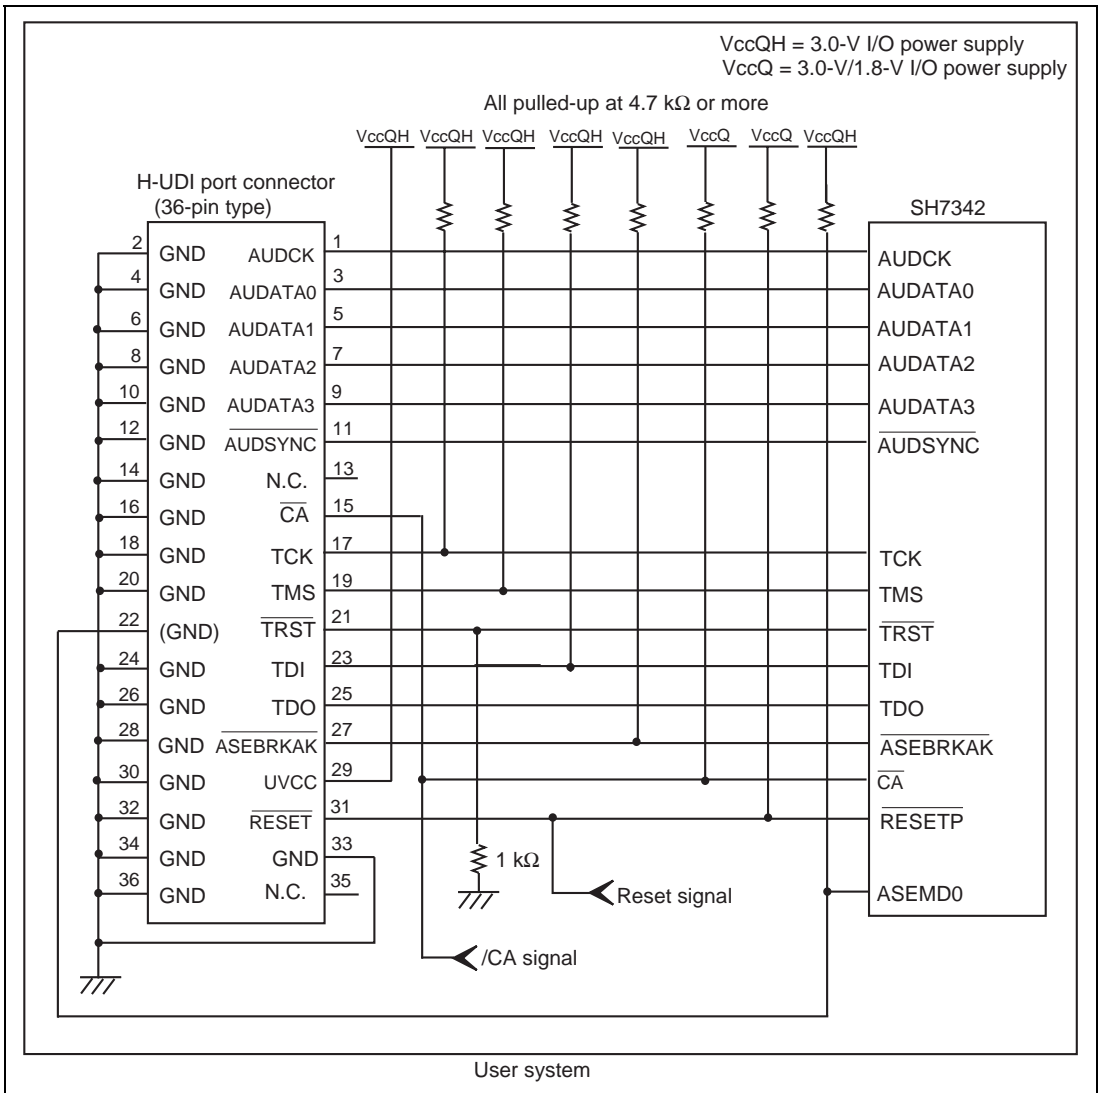

Figure 1.3 Recommended Circuit for Connection between the H-UDI Port Connector and MPU when the Emulator is in Use (36-Pin Type UVCC Connected)
Figure 1.3 shows a recommended circuit for connection between the H-UDI and AUD port connectors (36 pins) and the MPU when the emulator is in use.
- (1) When the emulator is used: /ASEMD0 = 0
- (2) When the emulator is not used: /ASEMD0 = 1Figure 1.3 shows an example of a circuit that allow the /ASEMD0 pin to be GND (0) whenever the emulator is connected by using the user system interface cable. When the /ASEMD0 pin is changed by switches, etc., ground pin 22. Do not connect this pin to the /ASEMD0 pin.
8. Since the H-UDI and the AUD of the MPU operate with the VccQH, supply only the VccQH to the UVCC pin. Make the emulator's switch settings so that the VccQH will be supplied (SW2 = 1 and SW3 = 1) (as shown in figure 1.3).
When the circuit is connected as shown in figure 1.3, the switches of the emulator are set as SW2 = 1 and SW3 = 1. For details, refer to section 3.8, Setting the DIP Switches, in the SuperH™ Family E10A-USB Emulator User's Manual.